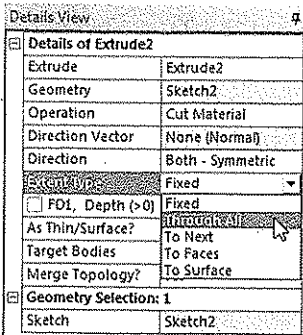

Figure 3-46 Selecting the **Through All** option from the **Extent Type** drop-down list
26. Select the **Through All** option from the **Extent Type** edit box in the **Details View** window, refer to Figure 3-46.